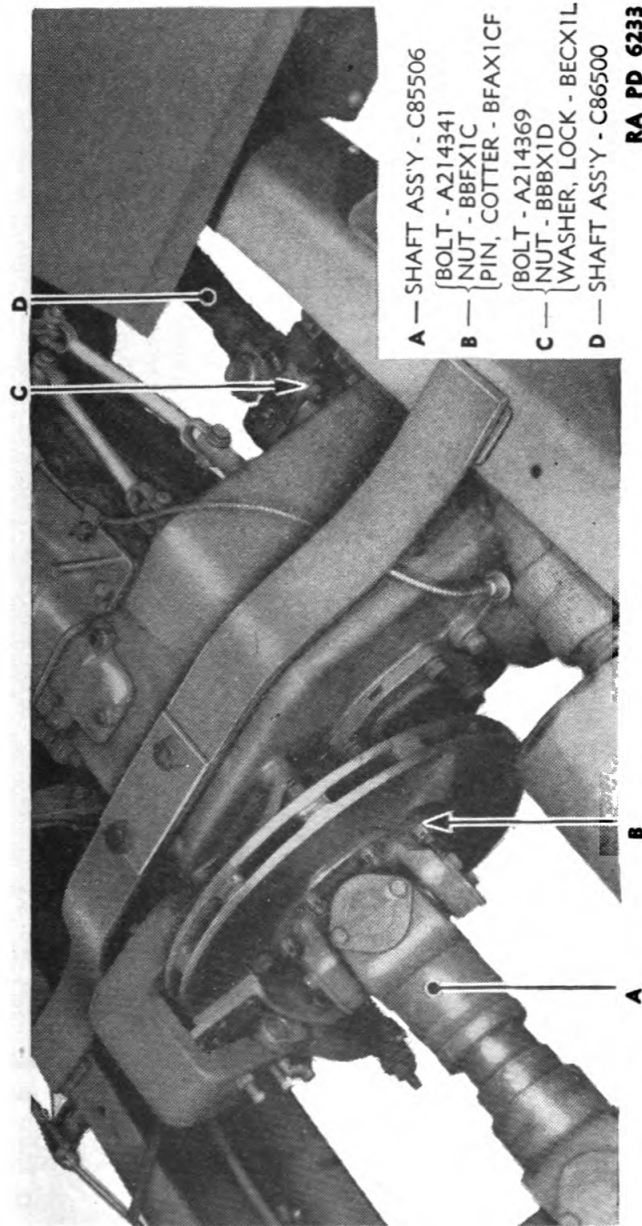

FIGURE 70.—Propeller shafts, installed.
(3) Replace with new seals.
**27. Removal of assembly (fig. 70).—a. Front axle propeller shaft.**—Tools: 5/8-inch open end wrench, 5/8-inch socket wrench. Re-